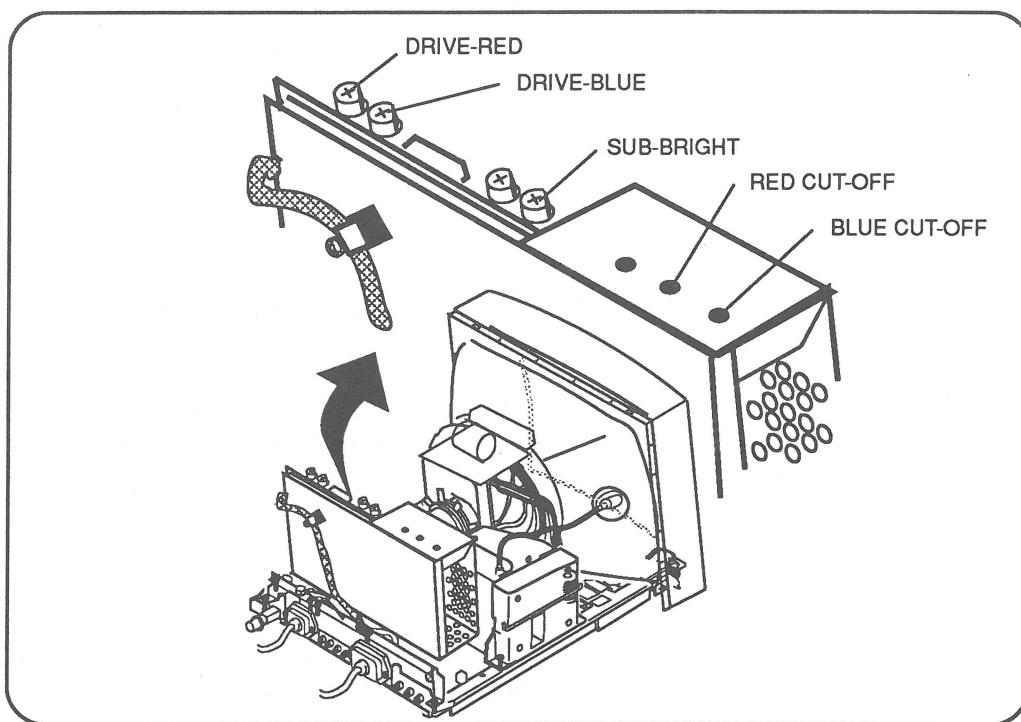

Figure 3-17 Video Adjustment Controls
9. **Figure 3-17.** Alternately adjust the RED and BLUE CUT-OFF controls until there is no predominant color (no colored tint) in the left three bars.
11. **Figure 3-17.** Alternately adjust the two drive controls—DRIVE-RED and DRIVE-BLUE—until there is no predominant color (no colored tint) in the right (brightest) three bars.